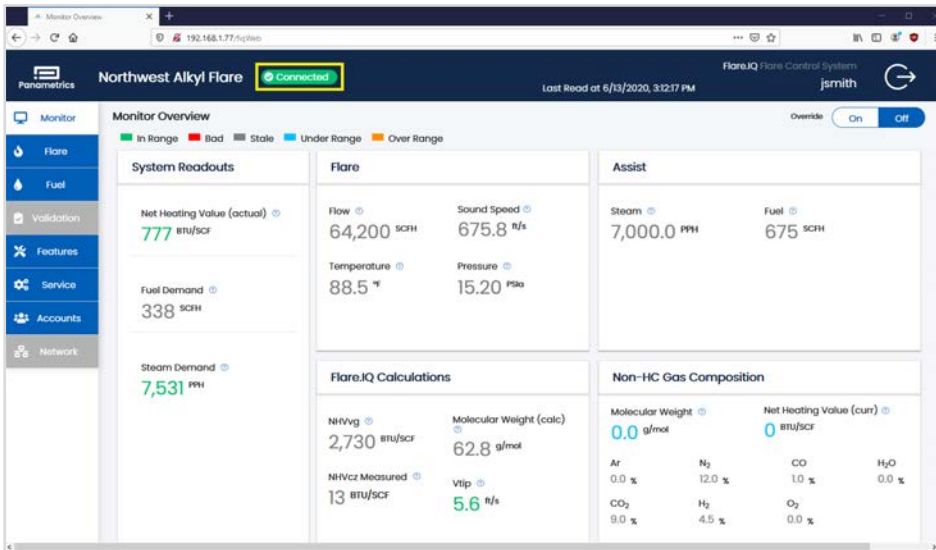

Figure 23: Monitor page with active Modbus connection
- **Connected** – The DCS has initiated a TCP session with the flare.IQ and is actively sending Modbus requests. This is the normal state of system operation (figure 23).
- **Time Out** – The DCS has not disconnected/closed the TCP session with the flare.IQ but has not sent a Modbus request for more than 15 seconds (figure 23).